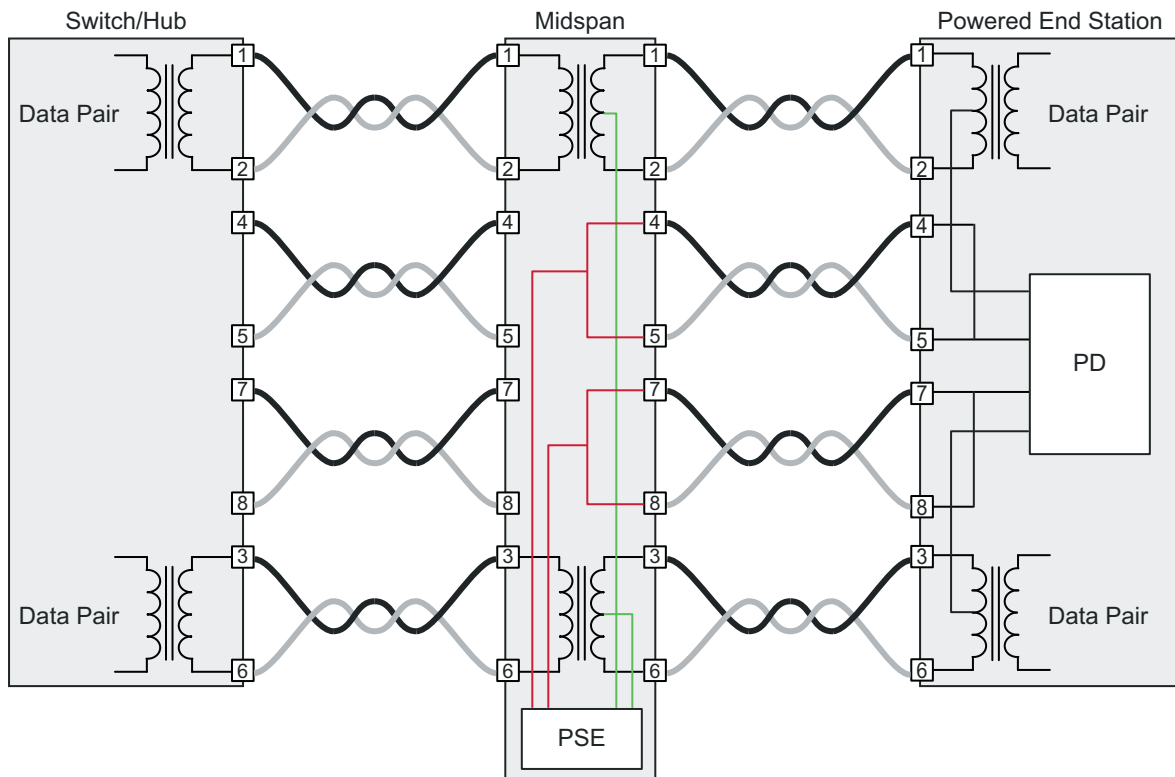

Figure 3: 10BASE-T/100BASE-TX Midspan Powered (Alternative A – Green; Alternative B – Red)
- Midspan PSE, supporting 10BASE-T/100BASE-TX networks only (Figure 3 on page 4)